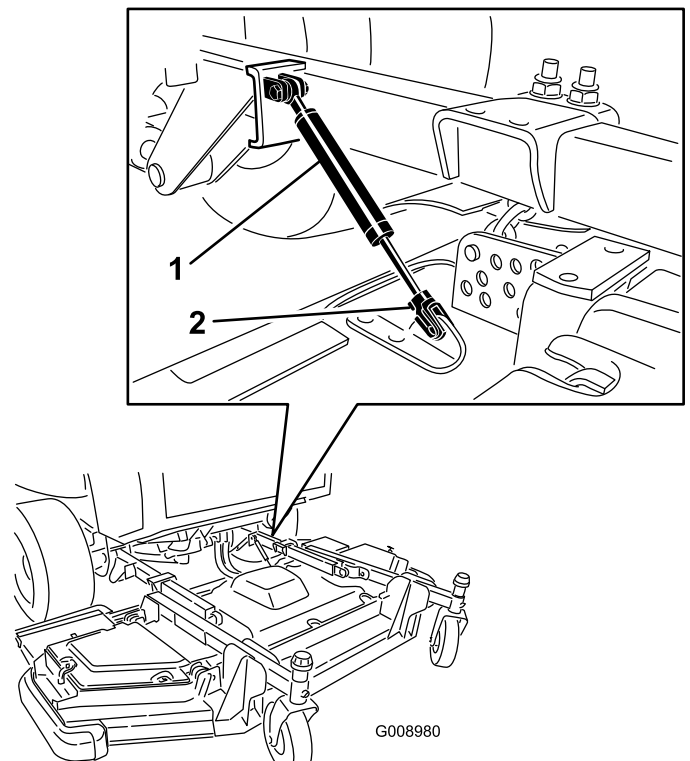

Figure 102
3. Remove the retainer clip and disconnect the damper assembly from the cutting unit (Figure 102).